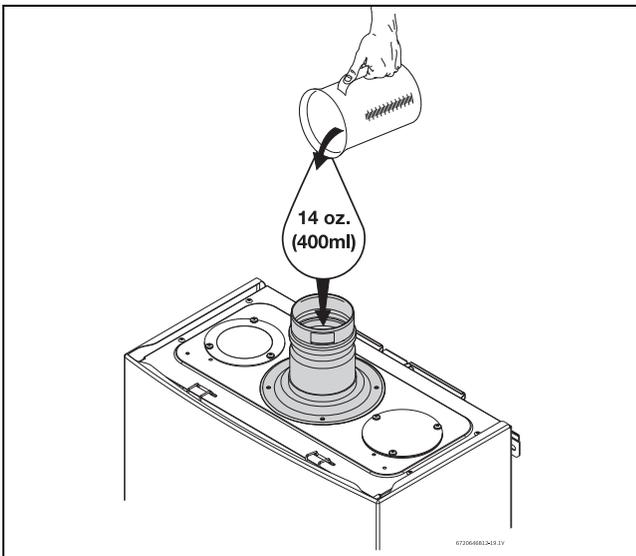

Fig. 34 Filling the condensate trap at start up
► Fill the condensate trap by pouring approx. 14 oz. (400ml) of water into the exhaust accessory on the top of the appliance, see fig. 34.